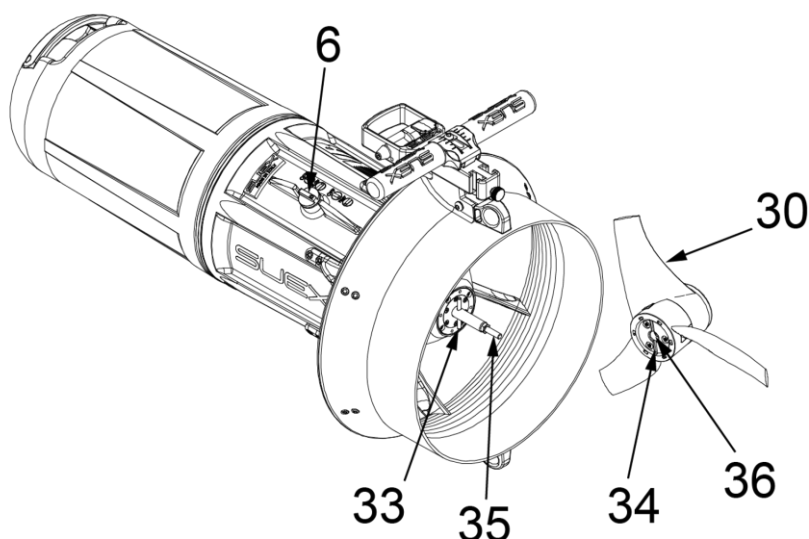

Fig 34 - Propeller insertion
Insert the propeller (hole 36 - Fig 34 - on p. 39) in motor shaft of the Scooter (35), turn the propeller (clockwise) until the pin (33) matches the seat (34) propeller. When you hear a click, the propeller will stop turning.